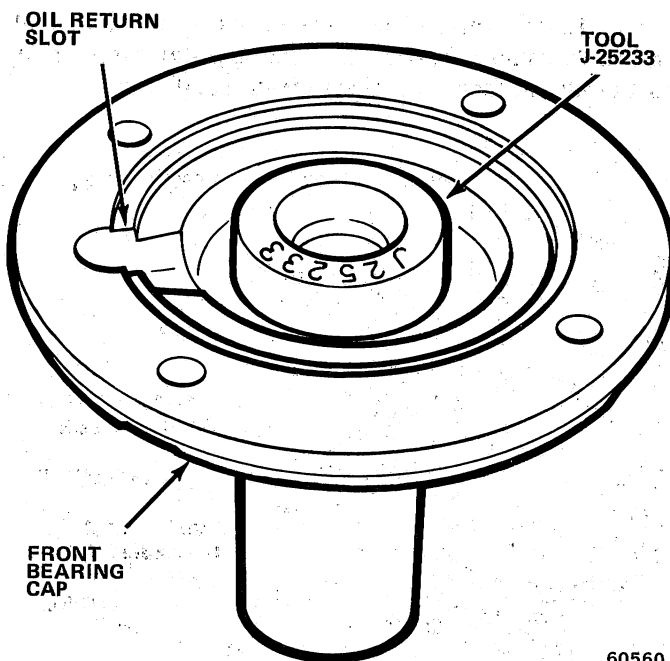

Fig. 2B-67 Front Bearing Cap Seal Installation
(29) Remove front bearing cap, seat front bearing fully on clutch shaft and install bearing retaining snap ring.
(30) Apply thin film of sealer to front bearing cap gasket and position gasket on case. Be sure gasket notch is aligned with oil return hole in case.
(31) Remove front bearing cap oil seal using screwdriver and install replacement oil seal using Tool J-25233 (fig. 2B-67).